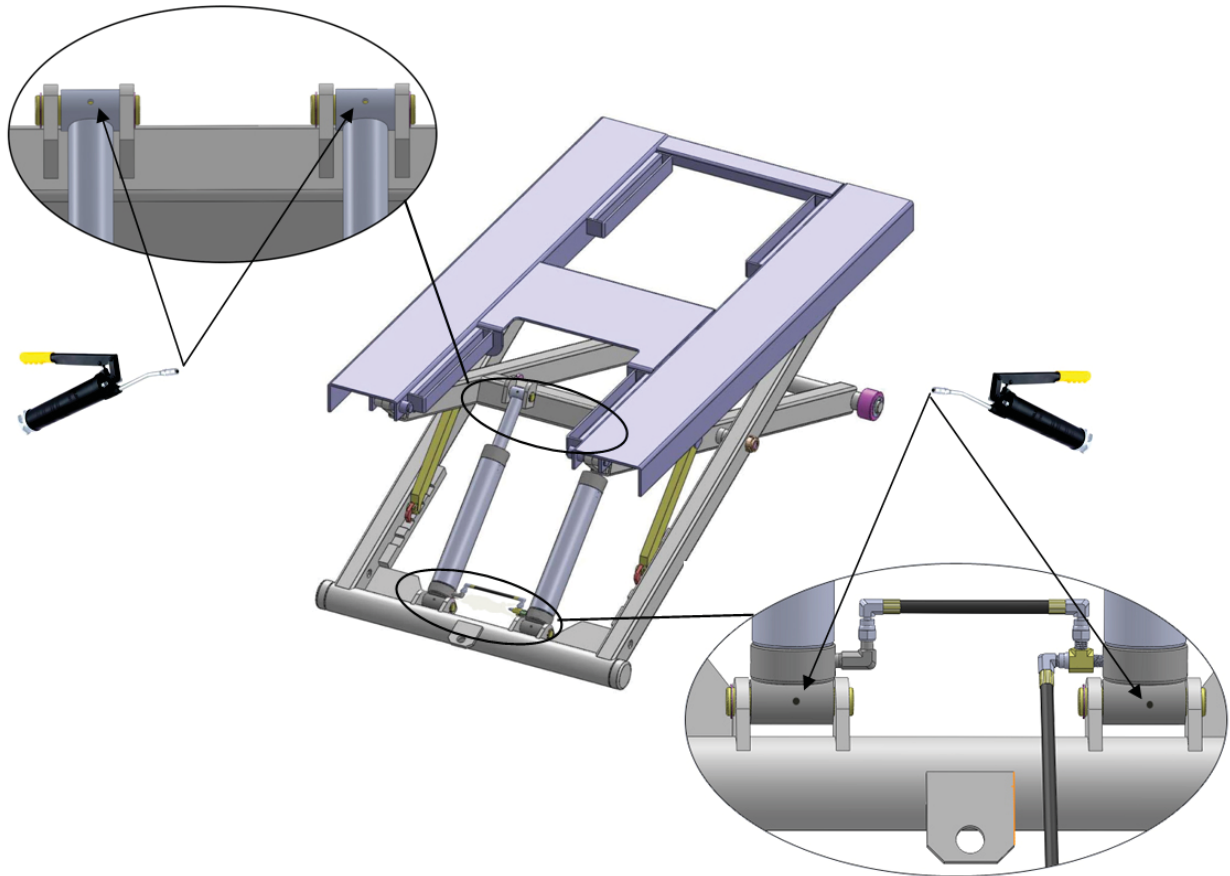

Fig. 19
1. Lubricate all moving parts with grease (See Fig. 19).